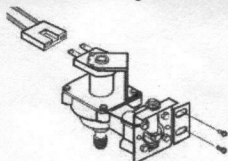

Figure 6
8. Attach wiring plug to new valve assembly. Mount valve to refrigerator cabinet. (See Figure 6)